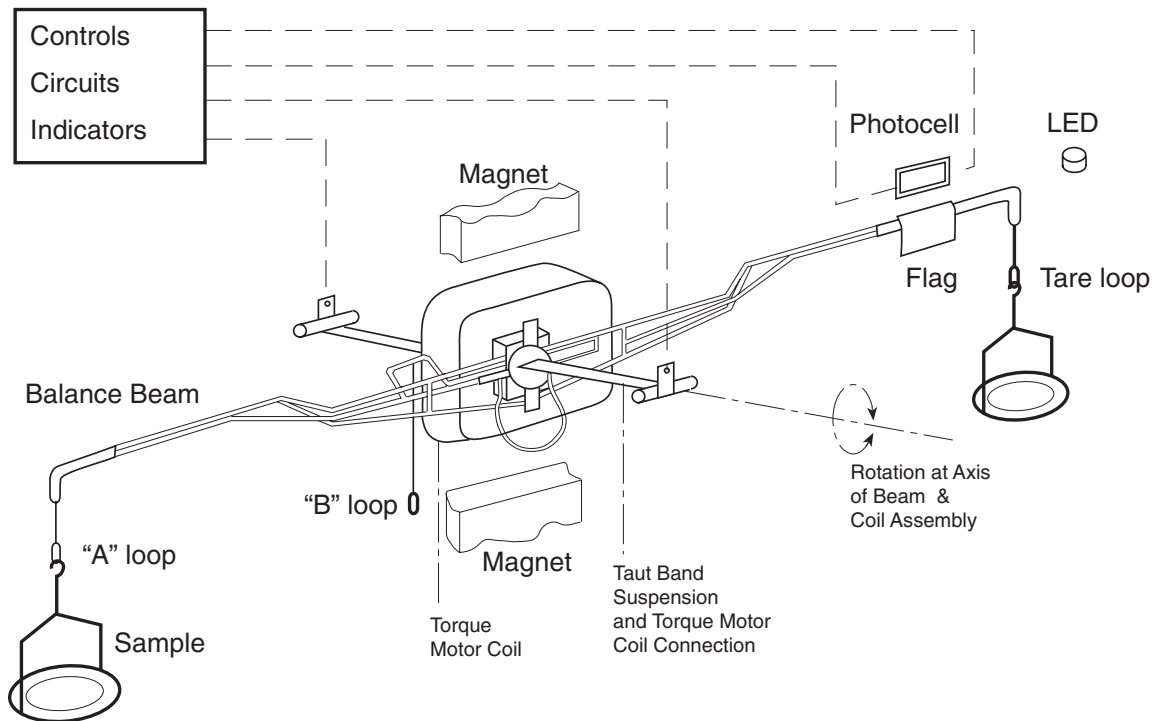

Figure 1: Principles of Operation
The Cahn C-34/C-35 is a very sensitive weight and force measurement instrument. It is designed for weights and forces up to 3.5 grams and is sensitive to changes as small as 0.1 micrograms. The balance may be described as a force-to-current converter. It consists of (1) a balance beam mounted to, supported by, and pivoting about the center of taut ribbon; (2) a torque motor coil located in a permanent magnetic field and also mounted to the taut ribbon; (3) sample suspension fixtures; (4) a beam position sensor system; and (5) controls, circuitry and indicators (See Figure 1).